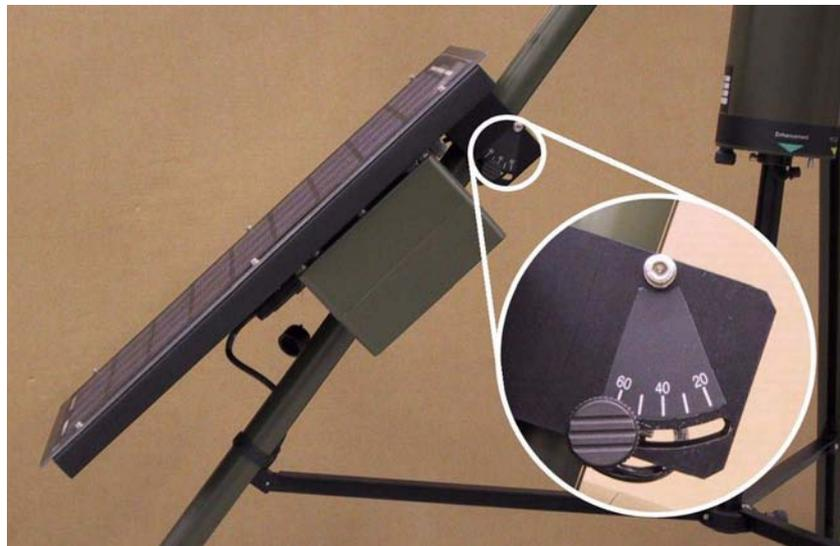

Figure 47 Setting the Correct Tilt Angle
3. To set the correct tilt angle, slightly loosen the adjustment hand screws on both sides of the unit and tilt the panel. Use the angle adjustment lines on the solar panel, see Figure 47 on page 56. Tighten the bolts when the angle is suitable, refer to Table 10 on page 55.